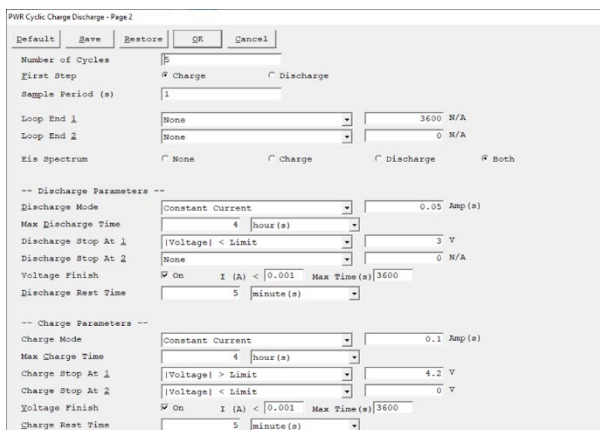

Figure 4- Page 2 of the CCD setup screens.
5. After clicking "OK" on the Cable Check, Page 2 of the setup screen will appear. See figure 4